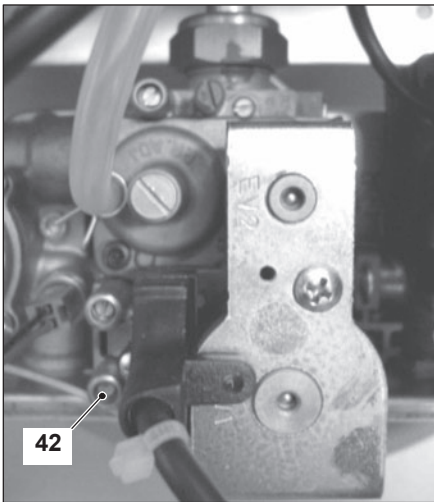

Fig. 7.7
- Loosen the internal screw on the Inlet Pressure Test Point 42 (Fig. 7.7) on the Outlet Pressure Test Point of the Gas Valve and connect a pressure gauge using a suitable hose.
- Disconnect the pressure gauge and close the Inlet Pressure Test Point 42 (Fig. 7.7).